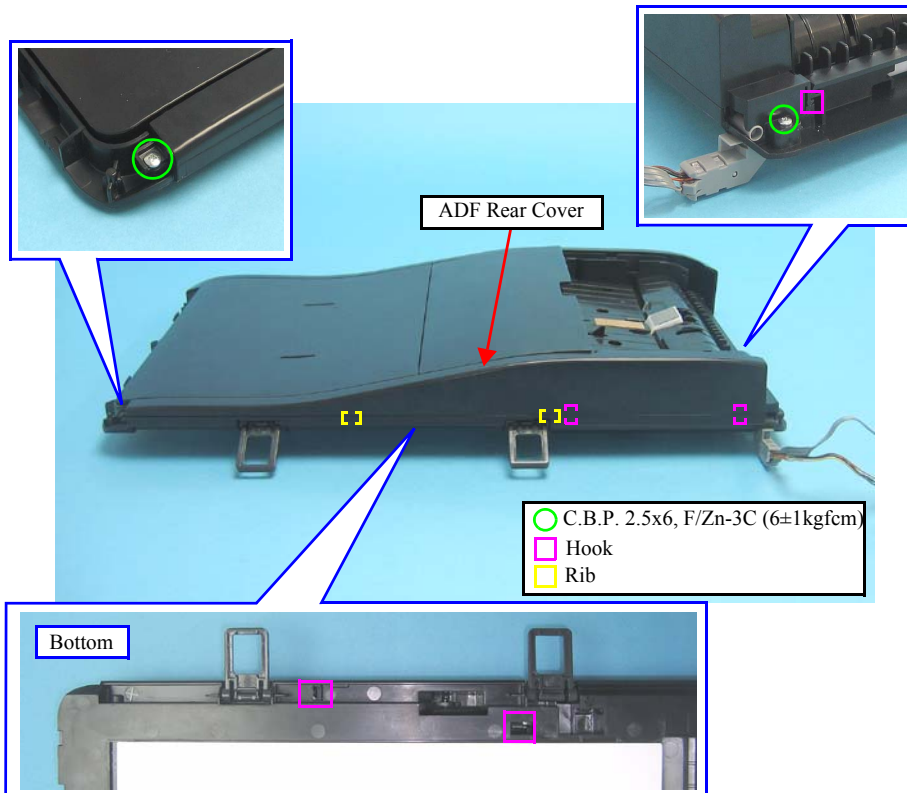

Figure 4-133. Removing the ADF Rear Cover
- When installing the ADF Rear Cover, align the hooks (x5) and the rib (x2) shown in Figure 4-133 with the positioning holes and dowels (x2) as shown below.